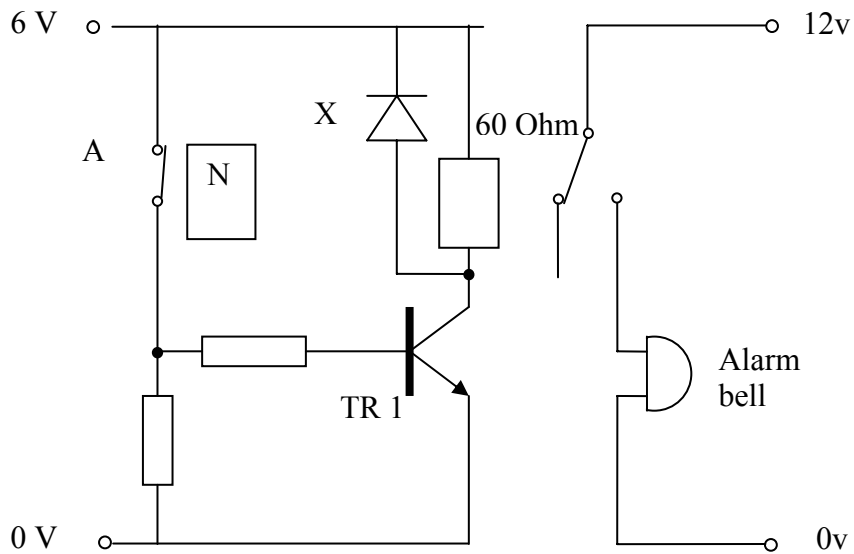

Fig 10 (b)
- 10** A circuit for a simple burglar alarm is shown in **Fig 10 (a)** Switch A (which is in the closed position) is attached to a window and window frame.